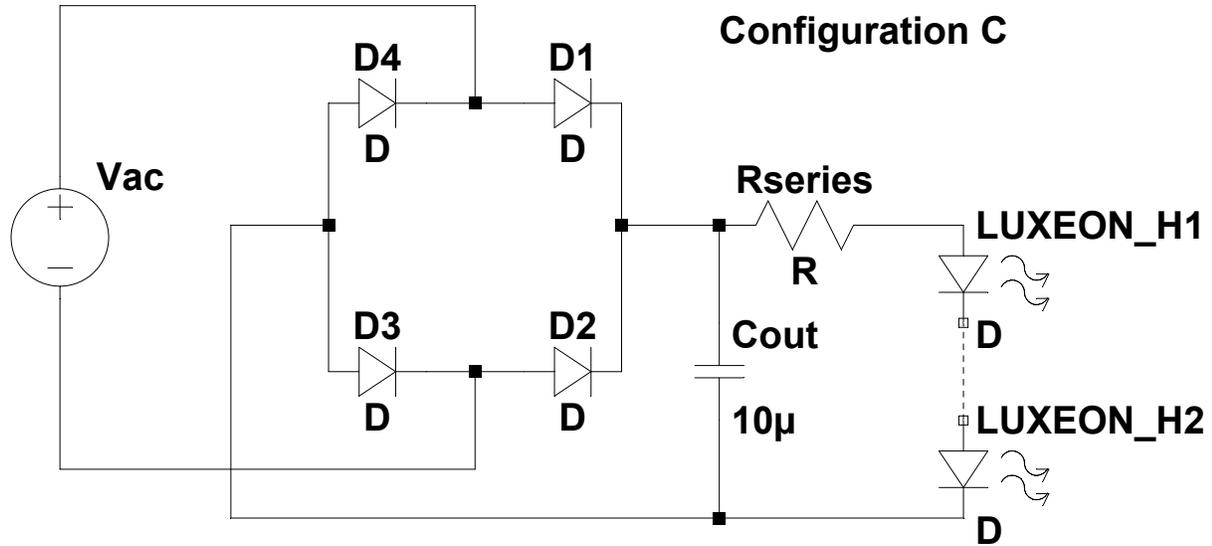

Figure 7. Configuration C, for use with table 3.
3. Configuration C: 10 $\mu$ F output capacitor in parallel and a resistor in series with LUXEON H LEDs (Figure 7)